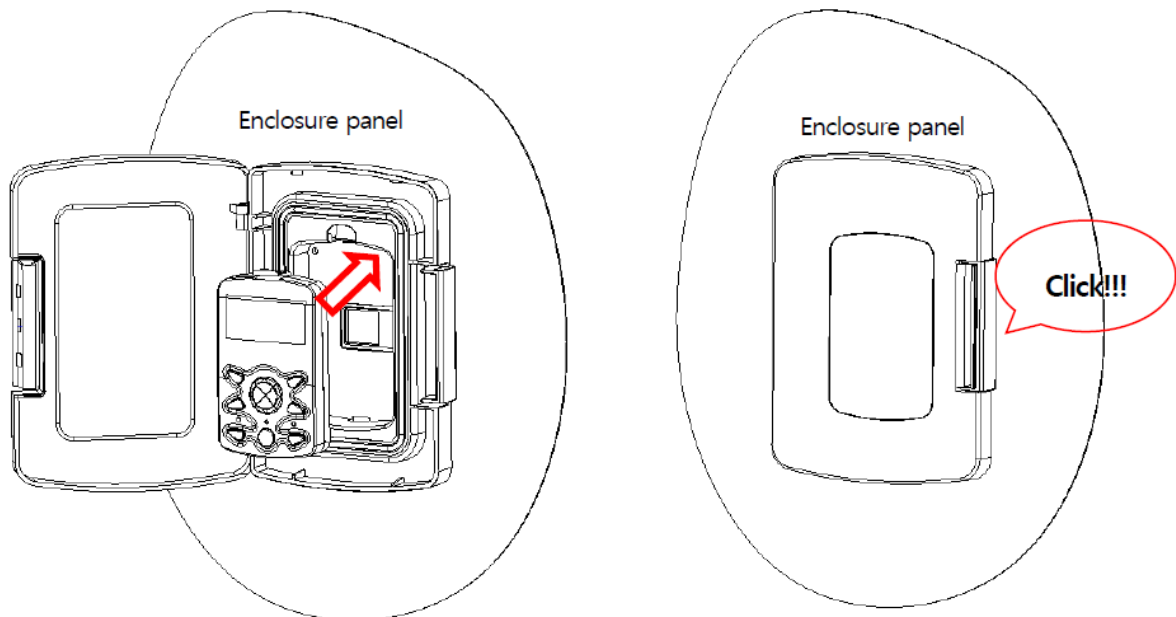

Figure 4. Keypad Installation
6. Install the keypad into the cover and close the cover as shown in Figure 4.